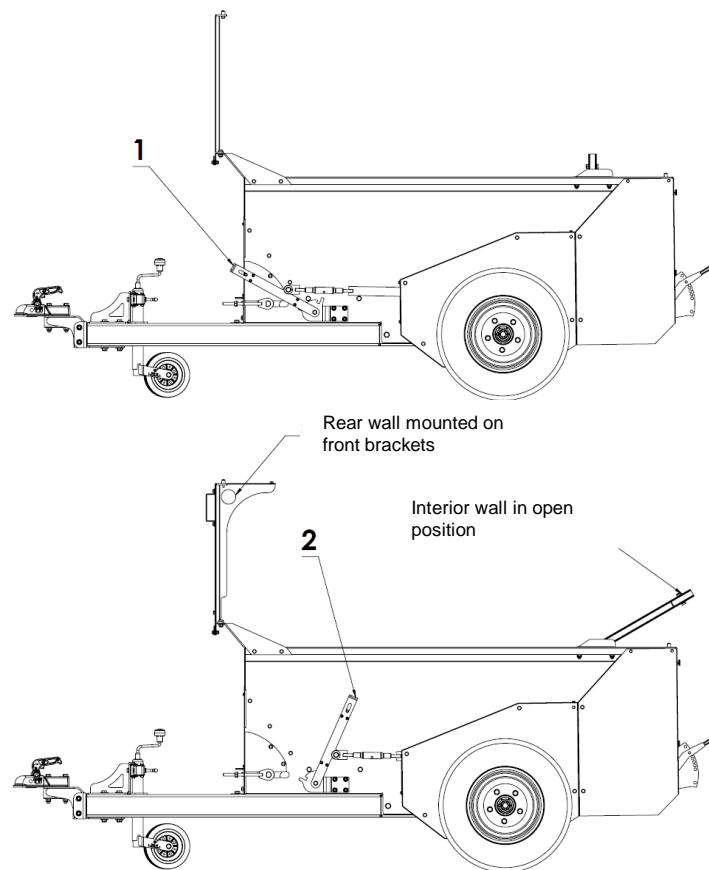

Figure 9. Control lever positions
- Engage the drives of the adapter and chain conveyor with the mini-spreader's driving wheels by setting the lever from angled position (1) to vertical position (2), as shown in (figure 9).